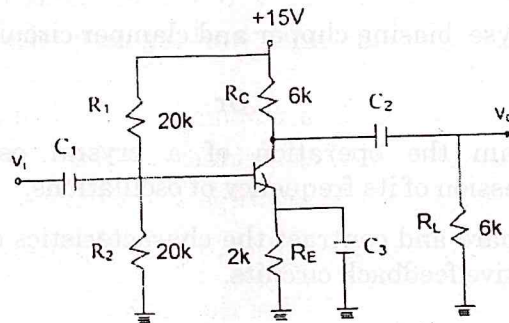

Fig. 13(a)(ii)
- (b) (i) Explain the negative resistance characteristics of the uni junction transistor with neat sketches. (6)
- (ii) Summarize the operation and characteristic behaviour of JFET under various biasing conditions. (7)
13. (a) (i) Using the low-frequency hybrid model, obtain the expressions for voltage gain, current gain, input impedance, and output impedance for CE configuration. (6)
- (ii) The transistor in the amplifier circuit shown in Fig. 13(a)(ii) has h - parameters, $h_{ie}=2k\Omega$ and $h_{fe} = 80$. The value of h_{oe} and h_{re} are negligible. Calculate the voltage gain and input impedance $Z_i(\text{amp})$ of the amplifier. Capacitors C_1 , C_2 , and C_3 may be assumed short at signal frequency due to small impedances. (7)